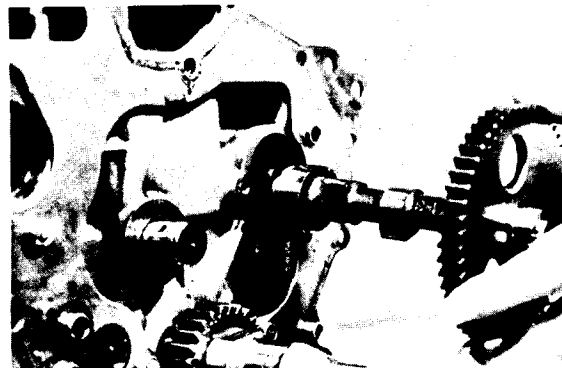

Figure 79
C. Pull the camshaft out of the cylinder block (Fig 79).